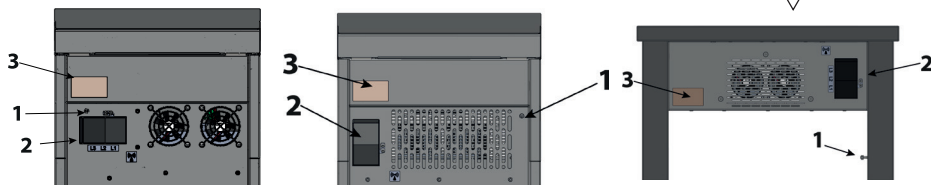

Figure 5. Rear view of unit
- Make sure that the mains voltage corresponds to the voltage indicated on the rating plate of the appliance (Fig. 5 Pos. 3)
- To connect the appliance to the mains, connect the power cord to the terminal box on the back of the appliance (Fig. 5 Pos. 2). **The power cord with plug is NOT part of the kit and must be purchased.**
(Fig. 5 Pos. 1) on the back of the device. It is marked with the following symbol: